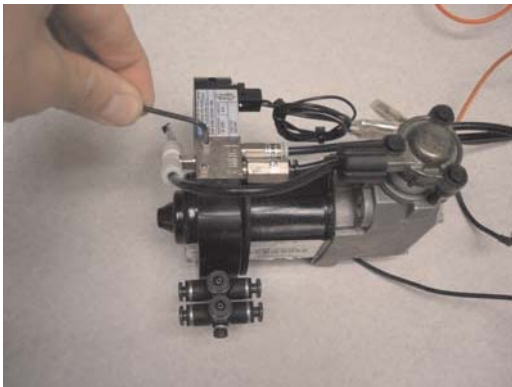
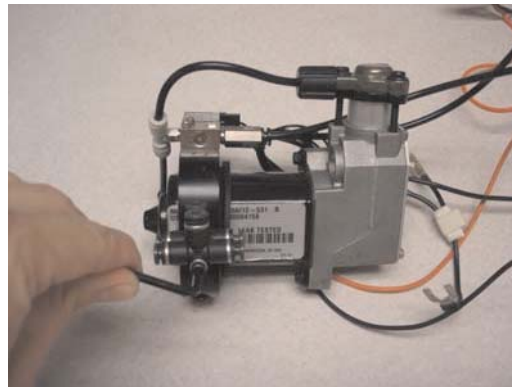

Figure 1
Figure 2
*7. With compressor removed, remove the original solenoid valve (Fig. 1) and the 2 “T” fittings (Fig. 2) from the compressor mounting bracket.